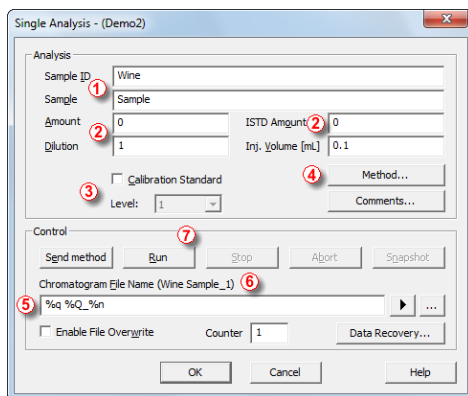

Fig 11: Single Analysis dialog
- The fields in the *Analysis* section contain information about the sample. You may set the values in the fields as shown on the **Fig 11** on pg 18., as typical analysis settings.
- The *Sample ID* and *Sample* fields ① are purely informational, whereas the data in *Amount*, *Dilution*, *ISTD Amount* and *Inj. Volume* fields ② are used for further calculations.
- Selecting the *Calibration Standard* and *Level* fields ③ would mark this sample as the calibration standard and save the chromatogram into the CALIB subdirectory.
- The measurement of the sample will be performed according to the actual modification of the template method opened in the Instrument window. The *Method...* button ④ serves to change the parameters of the actual template method. Click the button to open the Method Setup dialog and check the setting of the *Autostop* parameter (*Autostop* is enabled and *Run Time* set to 7.5 minutes). Return to the Single Analysis dialog by pressing OK button.
- The *Chromatogram File Name* ⑤ field is used for entering the file name of the resulting chromatograms. It is possible to use plain text together with variables adding the time, date, sample name or other parameters to create a unique chromatogram name. The resulting name can be seen just above the field ⑥ in parentheses.